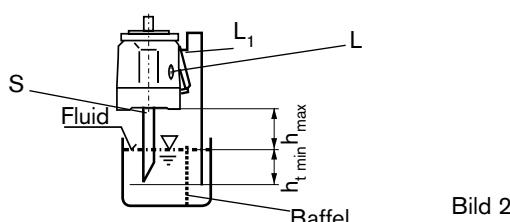

Bild 2
b) If the min. fluid level is below the pump mounting face: pipe ports " L_1 " and " S " acc. to fig. 2 "L" plugged. (see also limit of conditions)
Above the reservoir as in fig. 2. Before installation fill pump housing, keeping it in a horizontal position.